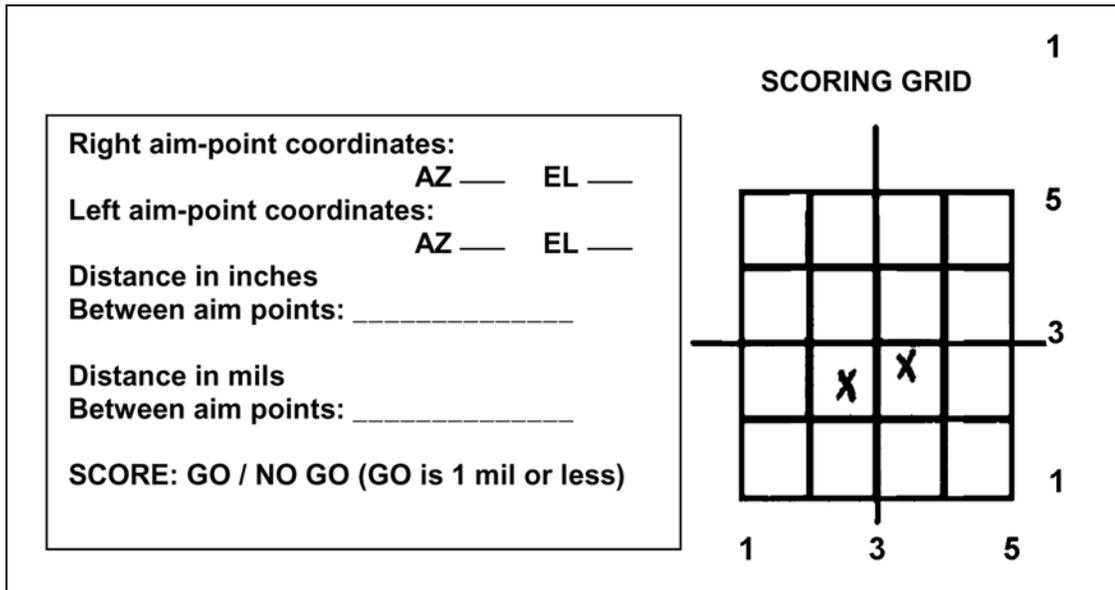

Figure B-35. Distance between aim points, *TEST 1*.
- (1) Use a ruler that has markings every 1/16 of an inch. A 1/16-scale allows measurement to the nearest 1/8 mil of the scoresheet.
- (2) Measure the distance between the two aiming points marked on scoring grid 1. The distance in this example is 7/16 inch.
- (3) Record the measured distance in the DISTANCE BETWEEN AIM POINTS block of data section 1.
- (4) Score *TEST 1*.
- (5) Record distance in mils between aim points (Figure B-35). See the conversion chart in Table B-1.